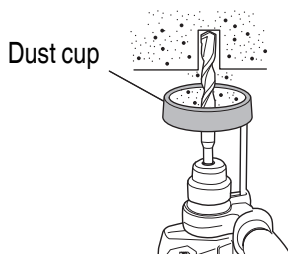
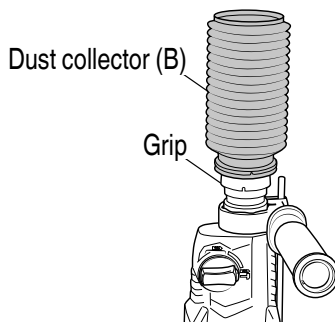

Fig. 3
Fig. 4
5. Installation of dust cup or dust collector (B) (Optional accessories) (**Fig. 3, Fig. 4**)
Use the dust cup by attaching to the drill bit as shown in **Fig. 3**.
- Installing dust collector (B)
When using dust collector (B), insert dust collector (B) from the tip of the bit and allow it to cover the grip (**Fig. 4**).